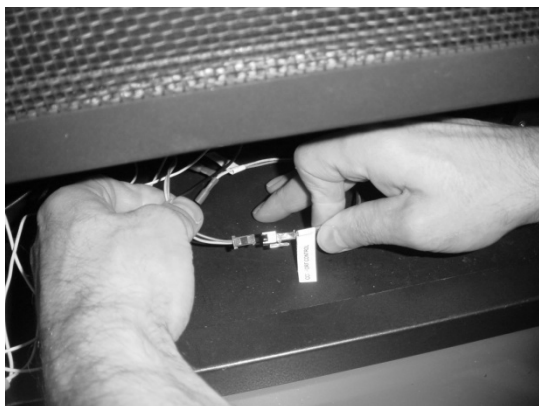
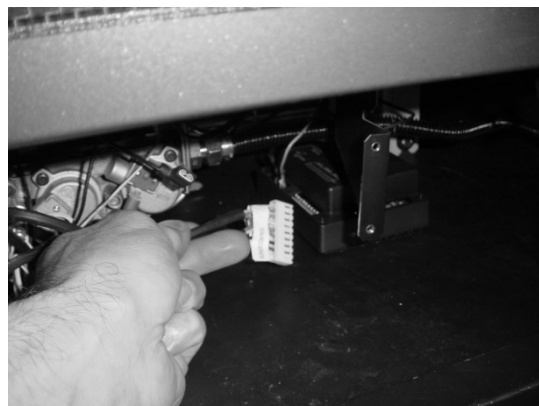

Figure 7
Figure 8
- 6 Disconnect the comfort control valve connection (see Figure 7). Disconnect the burner control connector from the fireplace burner control (see Figure 8).